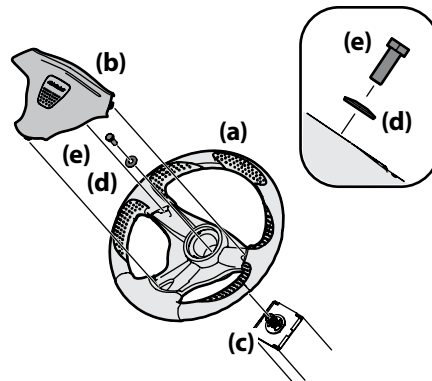

**Figure 2-6**
1. To adjust the position of the seat, push the seat adjustment lever to the left. See Figure 2-6.
2. Slide the seat forward or rearward to the desired position; then release the adjustment lever. Make sure seat is locked into position before operating the tractor. See Figure 2-6.